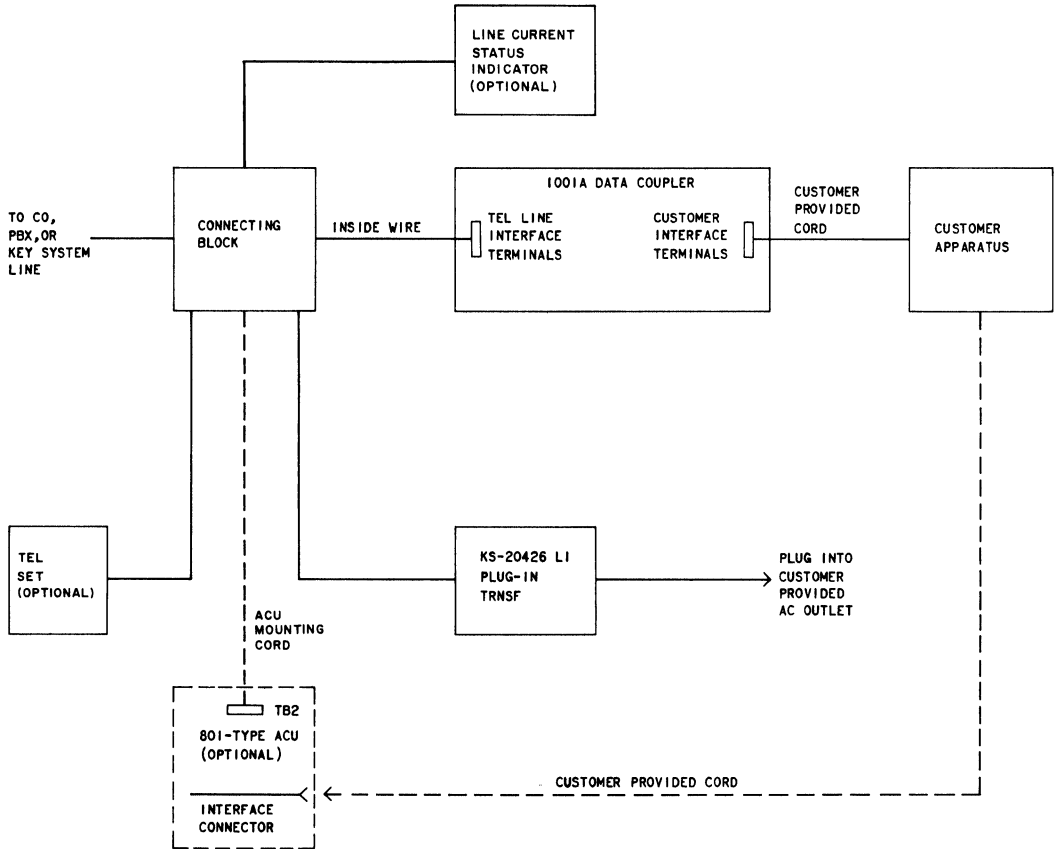

Fig. 14—Block Diagram of Typical 1001A Data Coupler Installation
- (1) For all analog modems, Type II requirements should be specified.
- (2) For all other modems, requirements based on speed of modem (same as for switched DATA-PHONE service) should be specified.
- (3) If the type of modem is known to be similar to a Bell System DATA-PHONE data set, use the requirements for that particular data set.
4.03 Installation of the coupler should comply with general practices to ensure an orderly station arrangement. Information relating to selection of type of connecting block and electrical code requirements is given in Section 590-010-200. See Fig. 14 for typical interconnection block diagram.